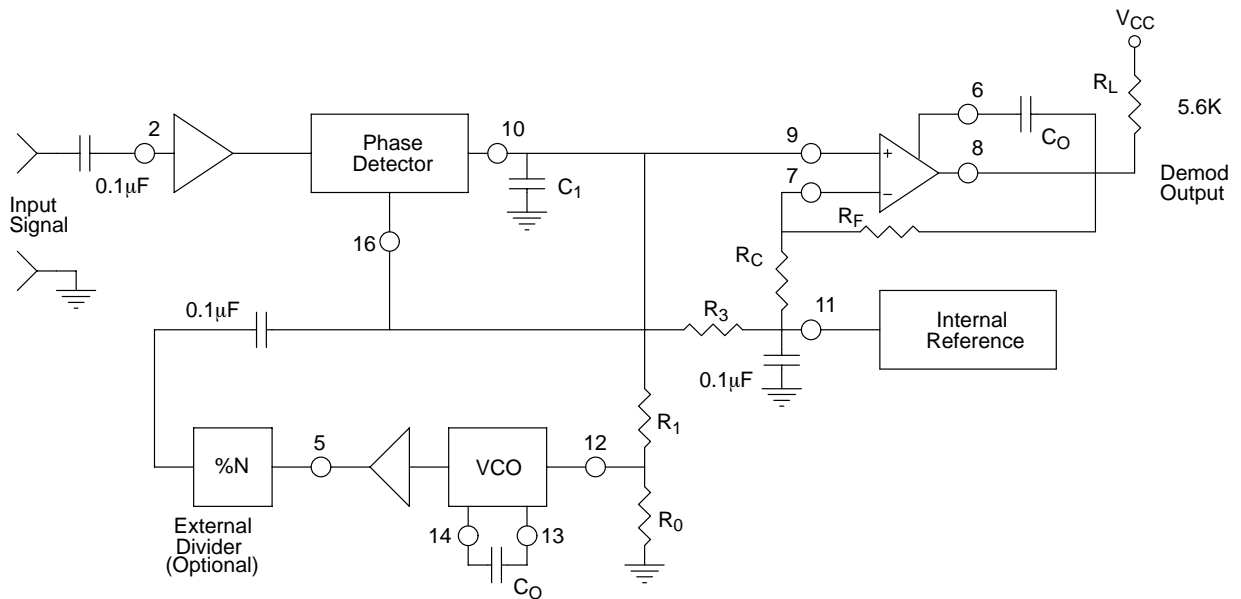
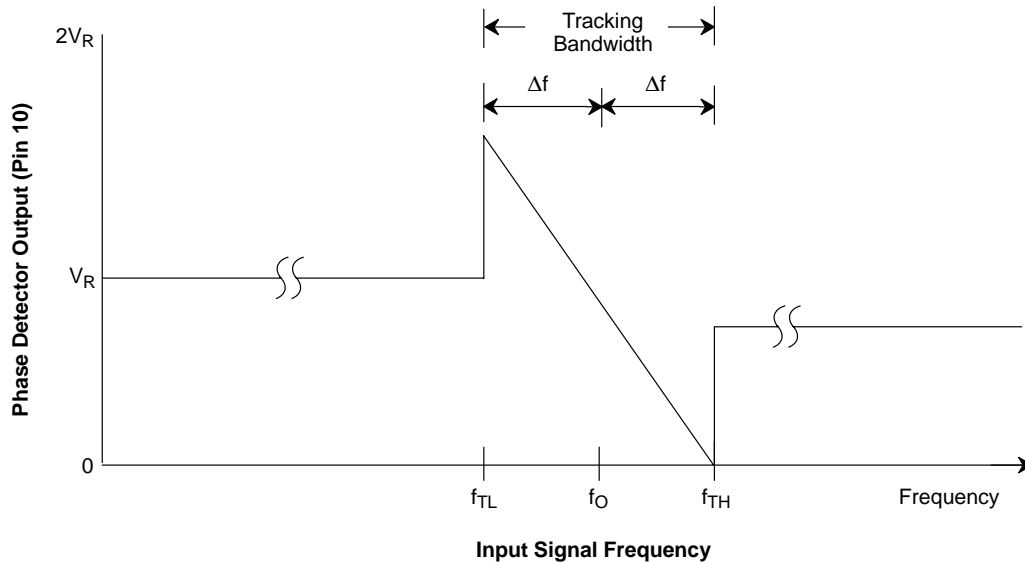
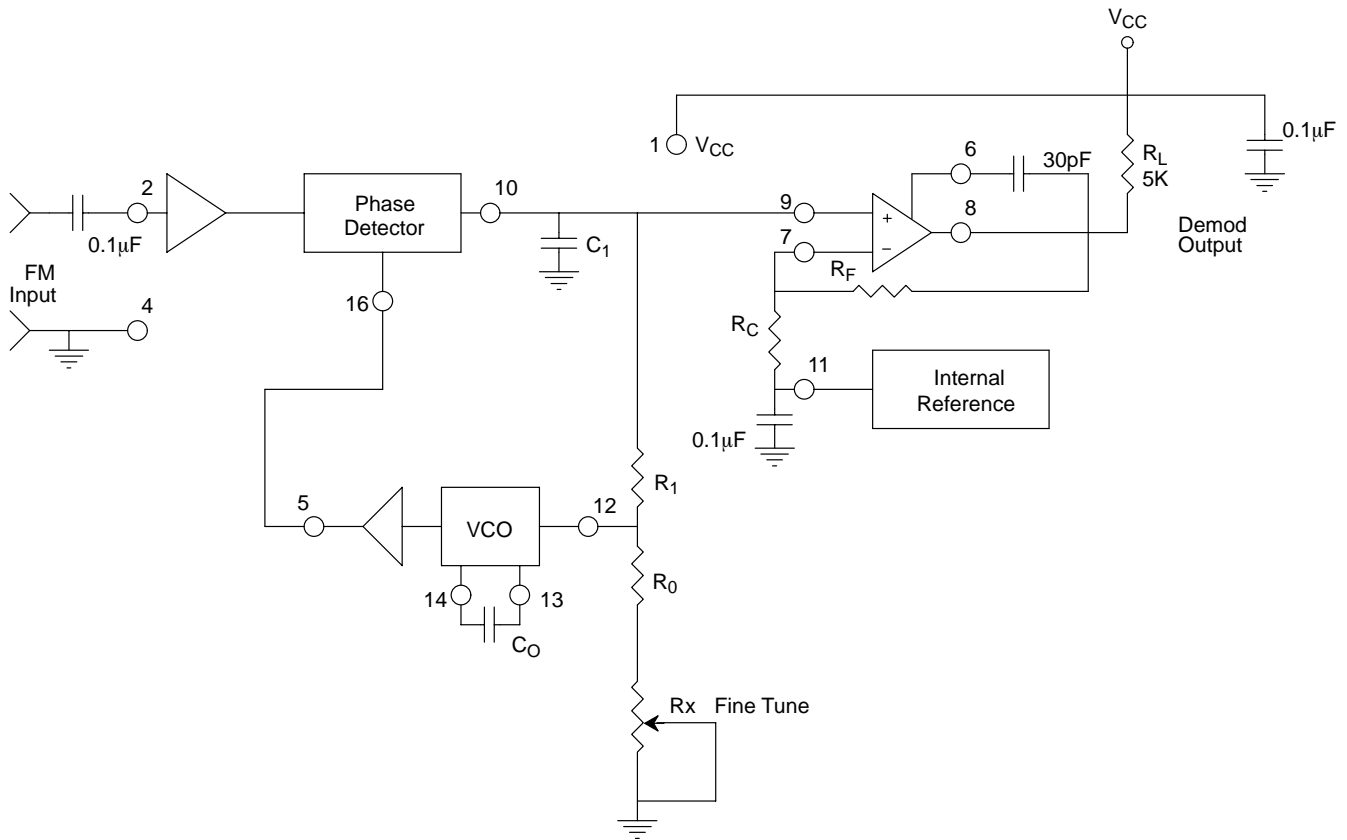

Figure 3. Generalized Circuit Connection for FM Detection, Signal Tracking or Frequency Synthesis
Figure 10. Phase Detector Output Voltage (Pin 10) as a Function of Input Signal Frequency
Figure 11. Circuit Connection for FM Demodulation
Test Conditions: $V_{CC} = +12V$, $T_A = +25^\circ C$, $R_0 = 30k\Omega$, $C_0 = 0.033\mu F$, unless otherwise specified. See *Figure 3* for component designation.
Phase Detector Output (Pin 10): This terminal provides a high-impedance output for the loop phase-detector. The PLL loop filter is formed by R_1 and C_1 connected to Pin 10 (see Figure 3). With no input signal, or with no phase-error within the PLL, the DC level at Pin 10 is very nearly equal to V_{REF} . The peak voltage swing available at the phase detector output is equal to $\pm V_{REF}$.
VCO Frequency Adjustment: VCO can be fine-tuned by connecting a potentiometer, R_X , in series with R_0 at Pin 12 (see Figure 11).
Figure 10 shows the basic frequency to voltage characteristics of XR-2212. With no input signal present, filtered phase detector output voltage is approximately equal to the internal reference voltage, V_{REF} at Pin 11. The PLL can track an input signal over its tracking bandwidth, shown in the figure. The frequencies f_{TL} and f_{TH} represent the lower and the upper edge of the tracking range, f_0 represents the VCO center frequency.
(See *Figure 3* and *Figure 10* for definition of components.)
7. VCO Conversion Gain, K_0 : (K_0 is the amount of change in VCO frequency, per unit of DC voltage change at Pin 10. It is the reciprocal of the slope of conversion characteristics shown in *Figure 10*).
XR-2212 can be used as a linear FM demodulator for both narrow-band and wide-band FM signals. The generalized circuit connection for this application is shown in *Figure 11*, where the VCO output (Pin 5) is directly connected to the phase detector input (Pin 16). The demodulated signal is obtained at phase detector output (Pin 10). In the circuit connection of *Figure 10*, the op amp section of XR-2212 is used as a buffer amplifier to provide both additional voltage amplification as well as current drive capability. Thus, the demodulated output signal available at the op amp output (Pin 8) is fully buffered from the rest of the circuit.
In the circuit of *Figure 11*, R_0C_0 set the VCO center frequency, R_1 sets the tracking bandwidth, C_1 sets the low-pass filter time constant. Op amp feedback resistors R_F and R_C set the voltage gain of the amplifier section.
The circuit of *Figure 11* can be tailored to any FM demodulation application by a choice of the external components R₀, R₁, R_C, R_F, C₀ and C₁. For a given FM center frequency and frequency deviation, the choice of these components can be calculated as follows, using the design equations and definitions given on page 10.
Note: All calculated component values except R_0 can be rounded-off to the nearest standard value, and R_0 can be varied to fine-tune center frequency, through a series potentiometer, R_X , (See Figure 11).
The total tracking range of the PLL (see Figure 10), should be chosen to accommodate the lowest and the highest frequency, f_{max} and f_{min} , to be synthesized. A recommended choice for most applications is to choose a tracking half-bandwidth Δf , such that:
- d) Calculate R_1 to set tracking bandwidth (see Figure 10 and design equation 5). If a range of output frequencies are desired, set R_1 to get: